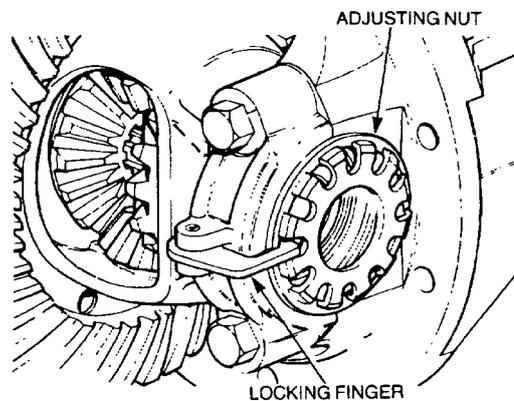

Figure 251 Installing the Locking Finger
- ii. Fit the adjusting nut locking fingers, bending the ends to engage the slots if necessary (Figure 251), then insert new roll pins. Do not alter the position of the adjusting nuts.